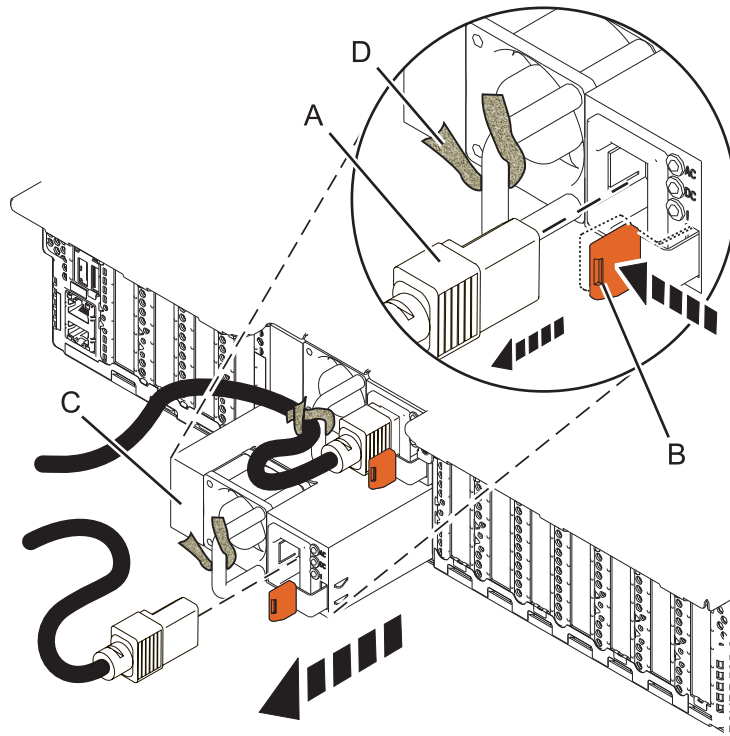

Figure 4. Removing a power supply from the system
3. Label and disconnect the power cord from the power supply by pulling the end of the power cord (A) out of the power supply in the direction that is shown in Figure 4 on page 6.
4. To unseat the power supply from its position in the system, push the terracotta locking-tab (B) in the direction shown in Figure 4.
5. To release the power cord that is strapped to the handle, unstrap the hook-and-loop fastener (D) and then pull the power cord away from the power supply (C). Ensure to retain the hook-and-loop fastener (D) on the power cord.
6. Pull the power supply (C) away from the system, as shown in Figure 4.